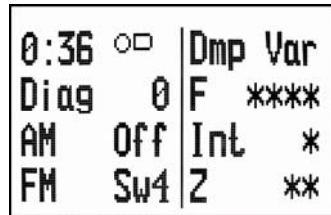

Fig. 12
6.12 **Setting the Frequency Modulation (FM)**. The frequency modulation modes are the following:
- ◆ swing 1 combined modulation mode (**FM Sw1**). The mode is indicated by a low pitch beep. At the same time the **device forcedly sets the following parameters: Dmp, Int, Gap, F**. After you activate the **Sw1** mode, you can change the settings of the **Dmp** parameter. The settings that cannot be changed are marked with asterisk on the screen (Fig.12);